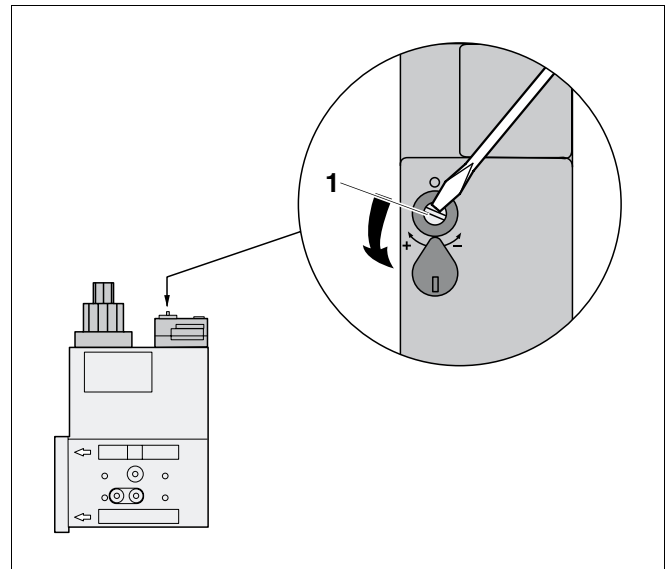

Fig. 27 Selecting the set value
- Push the plastic cover aside and turn the setting screw below the cover (Fig. 27, **Item 1**) clockwise or anti-clockwise, using a screwdriver.